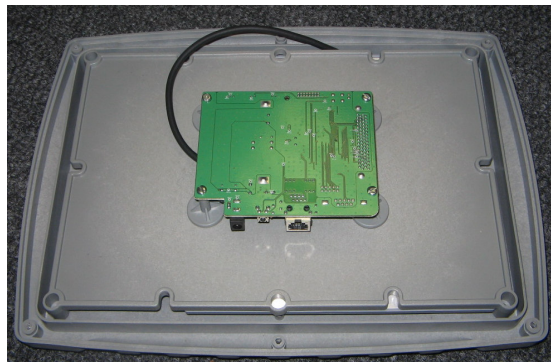

Figure 4. Connect the antenna to the electronics
4. Connect the antenna to the electronics either directly with the SMA(f) connector or by means of an adaptor cable (not provided) as necessary (refer to figure 4).